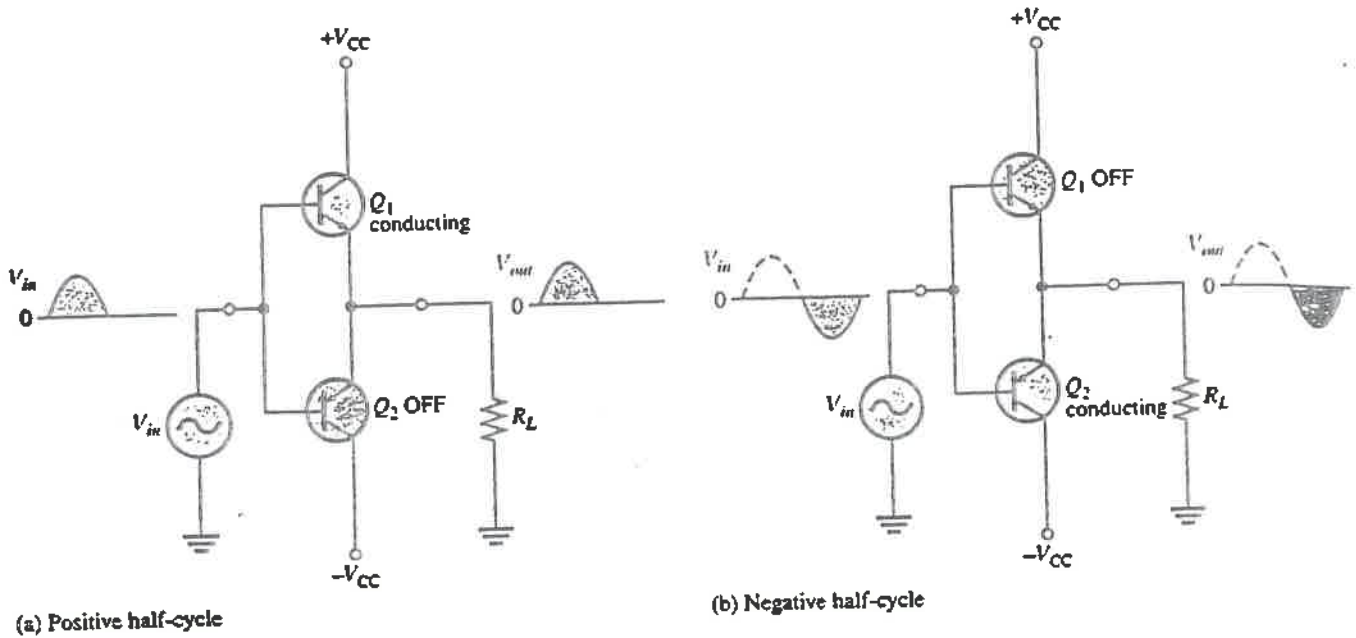

FIGURE 7-20
**Push-Pull Class B Operation** Figure 7-20 shows one type of push-pull class B amplifier using two emitter-followers. This is called a complementary amplifier because one emitter-follower uses an *nnp* transistor and the other a matched *pnnp*; the transistors conduct on *opposite* alternations of the input cycle. A matched complementary pair of transistors have identical characteristics, except one is an *nnp* and the other a *pnnp*. The 2N3904 and 2N3906 are examples. Notice that there is no dc base bias voltage ( $V_B = 0$ ); thus, only the signal voltage drives the transistors into conduction.  $Q_1$  conducts during the positive half of the input cycle, and  $Q_2$  conducts during the negative half.